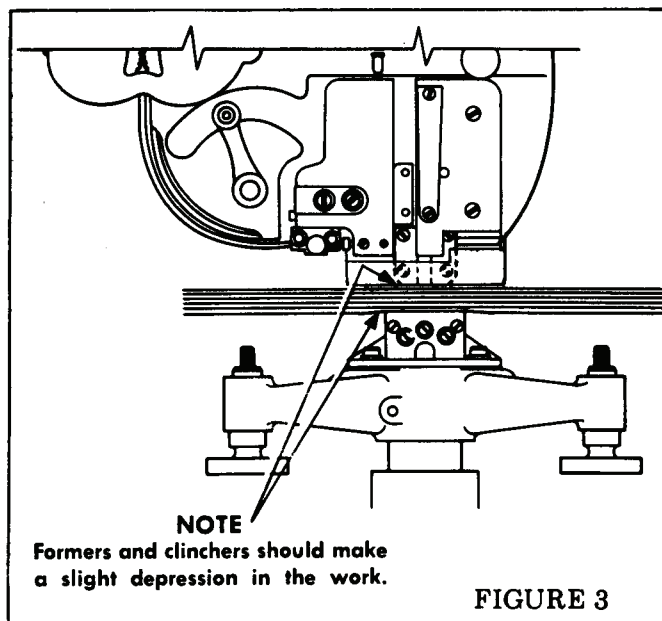

FIGURE 3
3. Place the material to be stitched over the clincher. Adjust the clincher upward until the formers and clincher make a slight depression in the work material. See figure 3.